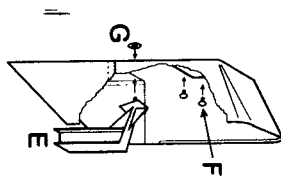

Figure 3 - Assemble lenses & handle to face shield
- ◆ Position hand grip "E" on the inside of the face shield using the threaded pin and positioning pin. Use the locking ring "G" to lock the hand grip into the face shield. Position the clear lens then the filter lens into the face shield from the inside. Use fixing screws "F" to fix the lenses into position. See Figure 3.